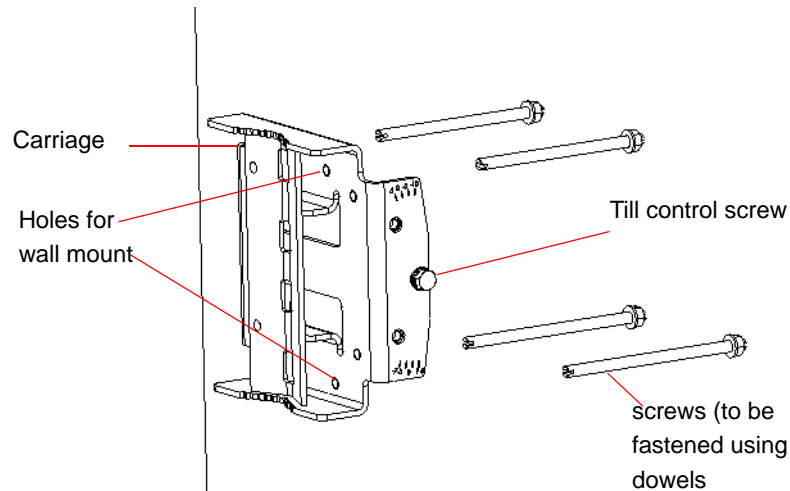

Figure 2-14: Mounting the Carriage on the Wall
- 5 Insert the tilt control screws into the middle-side hole of the carriage on both sides (see Figure 2-14).
- 7 Attach and fasten all the screws at both sides of the carriage (see Figure 2-14). Do not over tighten.